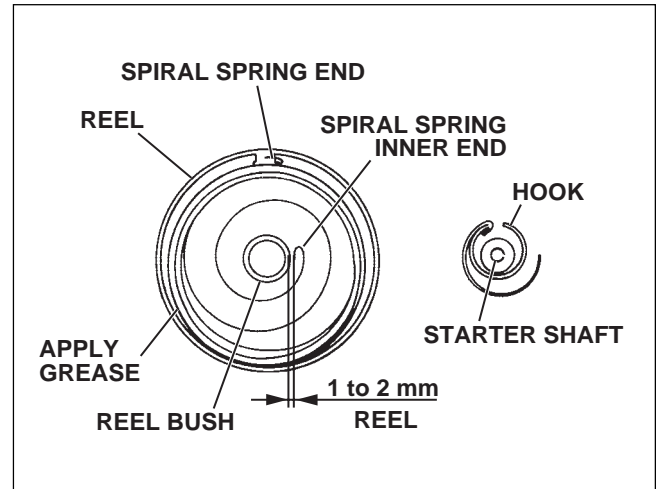

Fig. 9-4
- (2) Check that the spring is securely set in the reel and form the spring end to have 1 to 2 mm clearance between inner end of the spring and the reel bush so that the inner end catches the hook securely as shown in Fig. 9-4. The shape of spring inner end (approx. 10 cm from the end) can be adjusted with plier if necessary.